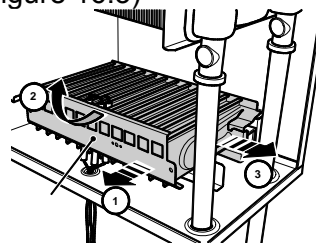

Figure 16.3
- Remove the burner 37 moving it to the left, rotating it upward and then pulling it outside the combustion chamber (follow the arrows on figure 16.3)